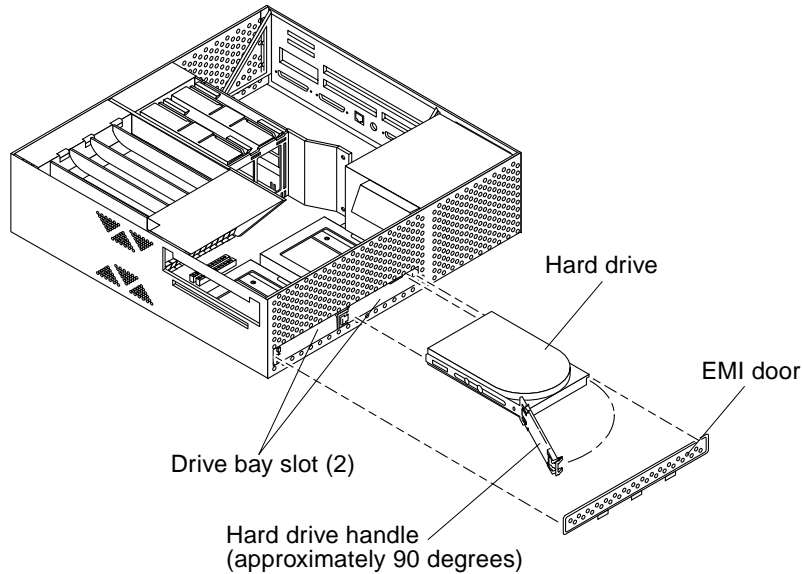

FIGURE 9-1 Removing and Replacing a Hard Drive
5. Remove a hard drive as follows (FIGURE 9-1):
1. Replace a hard drive as follows (FIGURE 9-1):